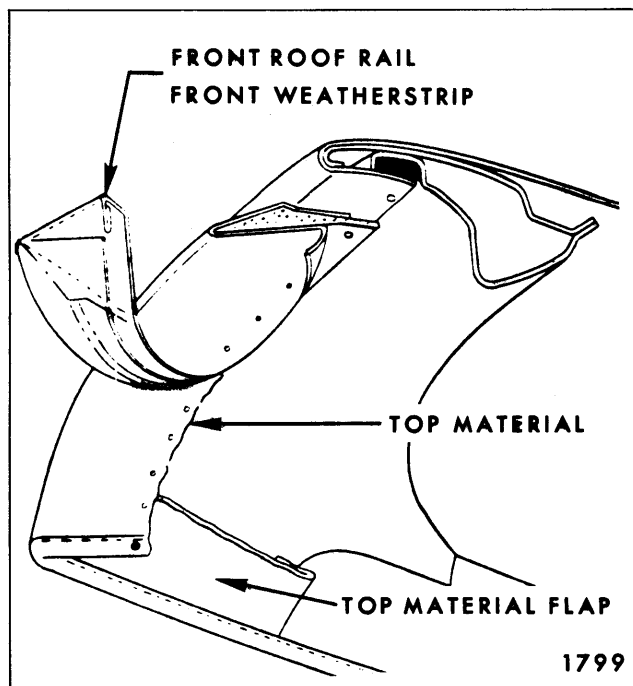

Fig. 13-1—Top Material At Front Roof Rail
9. Detach top material from front roof rail (Fig. 13-1).
10. Detach top material flaps from side roof front rail (Fig. 13-1).